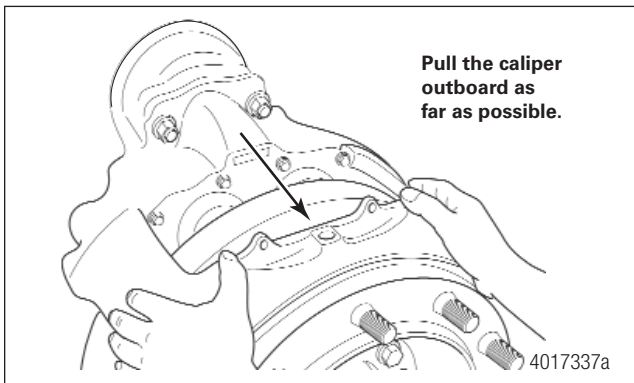

Figure 6.16
- Position the brake at the new pad condition. Pull the caliper outboard in the direction of the arrow as far as possible and let it settle into resting position. Figure 6.16.